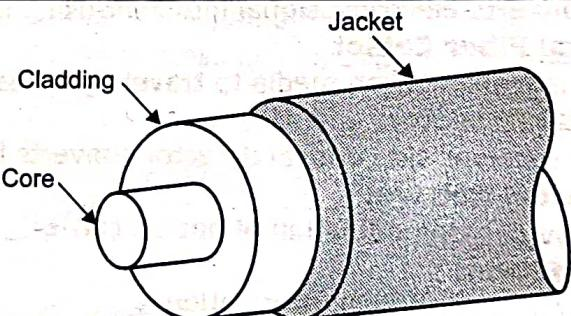

Fig. 1.4: Basic Construction of Fiber Optic Cable
- The fiber, which is called the core, is usually surrounded by a protective cladding shown in Fig. 1.4.